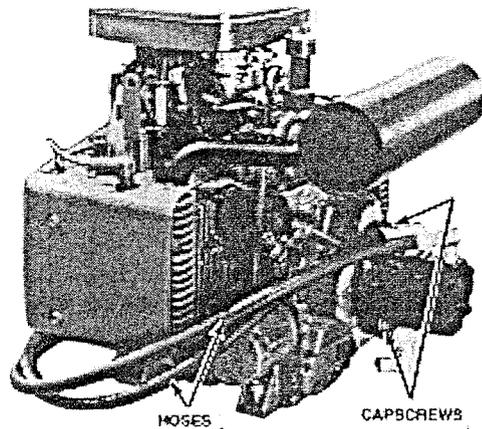

FIG 1-9 Pump
- (2) Remove capscrews securing pump to engine (Figure 1-9).
- (3) Remove pump from engine.